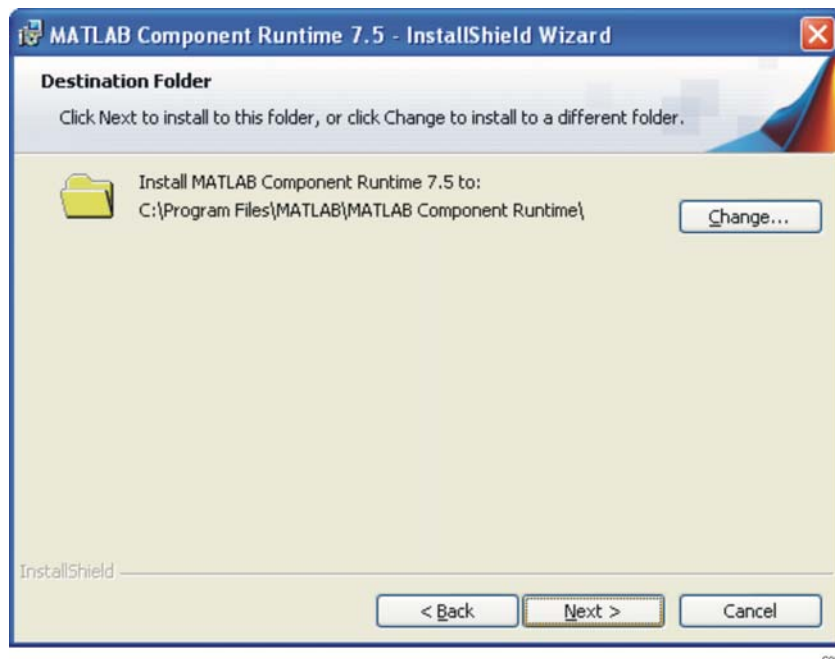

Figure 5. Destination Folder
4. When the *Destination Folder* screen (Figure 5) displays, click *Next* to install the MATLAB software in the default directory.